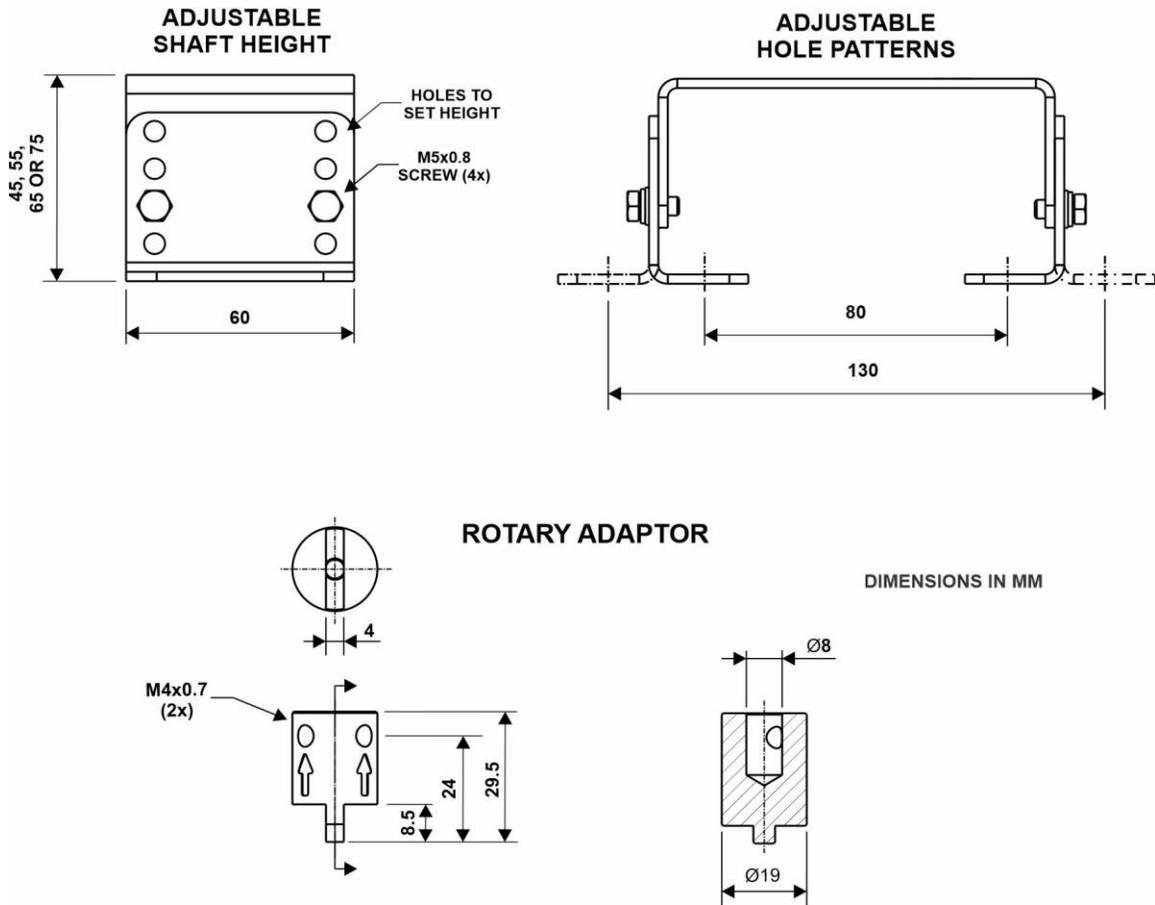

Figure 1.3 – Rotary mounting bracket configuration
3. The rotary mounting bracket consists of three parts, which can be adjusted to the actuator by different arrangements. Determine the configuration of the rotary bracket, according to dimensions a specific actuator size, using four M5 screws, four lock washers, and four flat washers. as shown in figure 1.3.
is fully inserted into the actuator shaft and that the mounting bracket conforms to the configuration shown in figure 1.3.